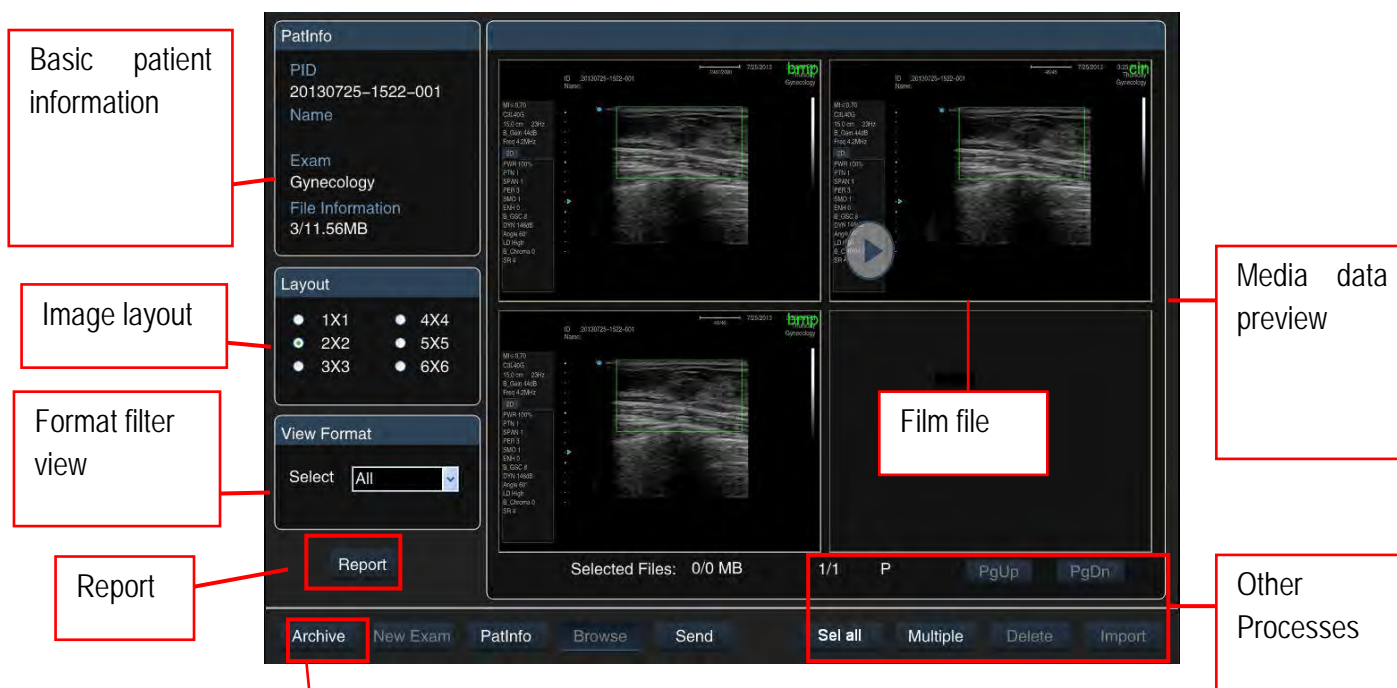

Figure 180: Browse Patient Information
Once the exact patient information has been found, move the cursor to the information and press **Set** to select. Move the cursor to **Browse** on the bottom of the screen, then press **Set** or double-click on this patient information to open the Browse Media window, as shown in Figure 180.
- Media Preview:** Preview of all media information on the current patient, including images and films, JPG, Cin, etc. formats (the file format is displayed at the upper right, and film files are also marked  on the upper left, as shown in Figure 180).